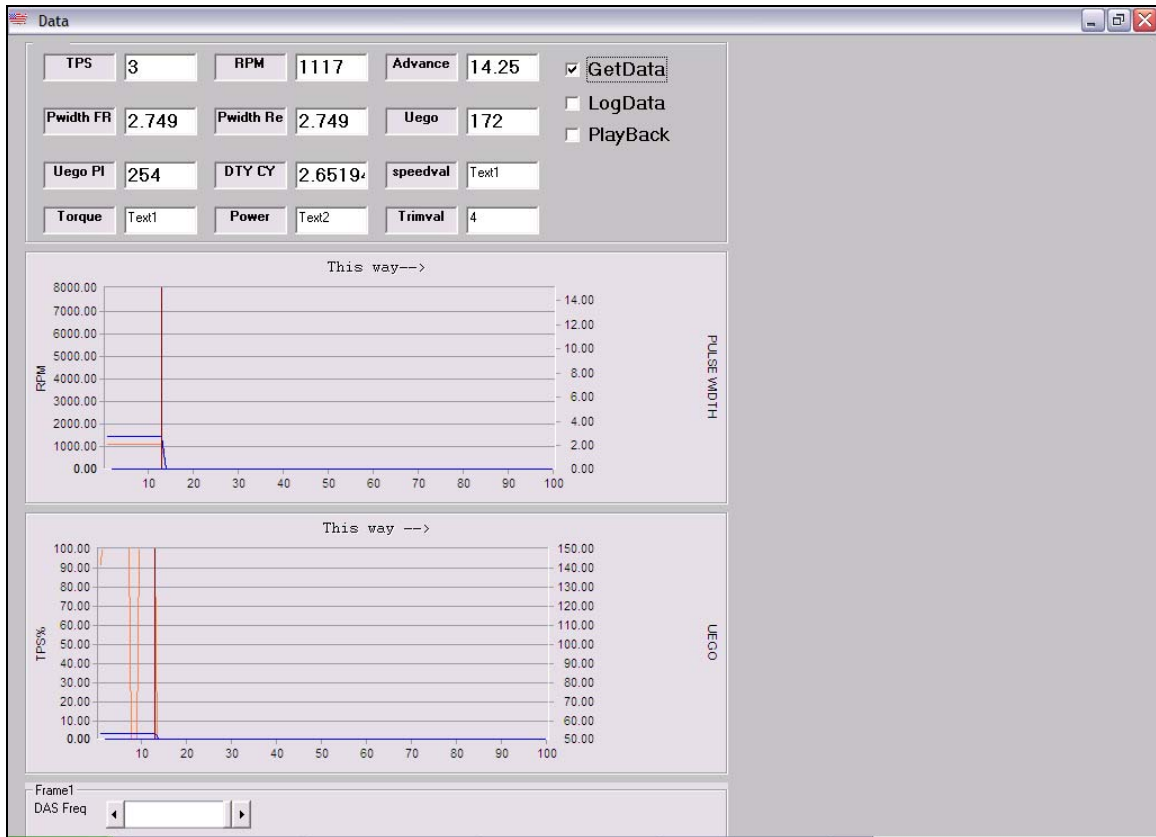

Figure 9. Data screen. This engine is idling at 1117 RPM, with 3 degrees of throttle.
Refer to figure 9 in the appendix for parameter description and illustration. Because of the inherent power pulsing of the V-twin, PFI uses an “idling” mode to reduce speed variations. The idle mode does not use any of the maps; instead it uses a series of parameters to control the fuel and ignition when (1) the throttle is lower than a throttle idle threshold (2) the engine RPM is lower than an RPM idle threshold. If these two conditions are true, the ECU will be in idle mode, and holds the fuel and ignition fixed until you leave the idle mode. This makes idling very stable.